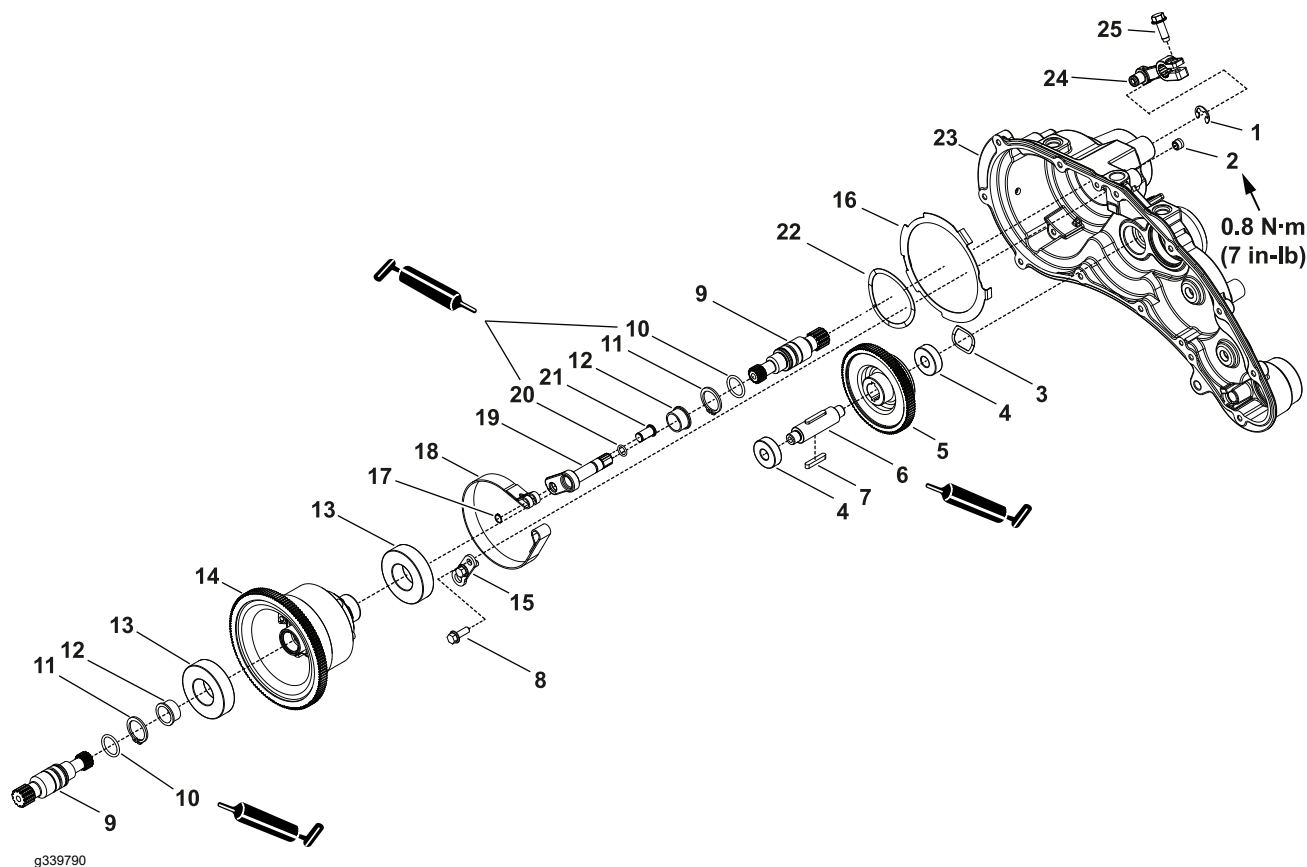

Figure 26
4. Remove the neutral spur gear assembly (item 5 in Figure 26) and wave washer (3) from the transmission housing assembly (23).
5. Use a press to remove the ball bearings (4) from the neutral slider shaft (6). Remove the square keys (7) from the neutral slider shaft (6). Discard the ball bearings.
6. Remove the differential assembly (14) from the transmission housing assembly (23).
7. Remove the 2 differential shafts (9) from the differential housing (14). Remove the retaining rings (11) and O-rings (10) from the differential shafts (9). Discard the O-rings.
8. Use a press to remove the 2 ball bearings (13) and 2 flange bearings (12) from the differential assembly (14). Discard the ball bearings (13).
24. Assemble the brake lever assembly (item 19 in Figure 26) as follows:
- A. Apply a coat of grease to the O-ring (item 20 in Figure 26) and slide the O-ring onto the brake lever.
- B. Place the brake lever (item 19 in Figure 26) onto the brake band (18) and secure with the brake clevis pin (21) and retaining ring (17).
25. Slide and install the brake lever assembly (item 19 in Figure 26) into the transmission housing assembly (23).
26. If removed, insert the brake mount pin through brake band into the transmission housing assembly (item 23 in Figure 26), place the flat wire spring (22) and brake plate retainer (16) onto the transmission housing assembly.
27. Place the retainer plate pin (item 15 in Figure 26) onto the transmission housing assembly (23) and secure it with the 2 bolts (8).
28. Slide and install the external retaining ring (item 1 in Figure 26), cable brake lever (24) onto the brake lever (19) and secure it with the bolt (25).
29. If disassembled, assemble the differential assembly (item 14 in Figure 26); refer to Assembling the Differential Assembly \(page 4–34\).
30. Pack the differential assembly (item 14 in Figure 26) with grease and use a press to install the 2 ball bearing (13) and 2 flange bearings (12) into the differential assembly.
31. Apply a coat of grease to the 2 O-rings (item 10 in Figure 26) and slide the O-rings to the differential shafts (9). Install the retaining rings (11) onto the differential shaft (9).